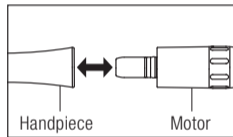

Fig. 1
- 1 Insert the handpiece directly into the motor (Fig. 1).
Hold the motor and the handpiece, then pull apart (Fig.1).